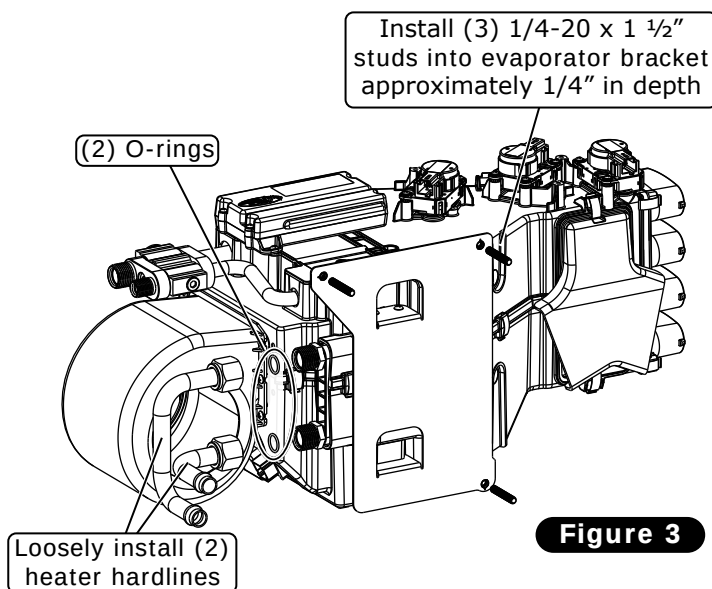

Figure 3
6. Loosely install the (2) heater hardlines with properly lubricated O-rings (See Lubricating O-rings, Page 13 and Figure 3, below). **NOTE: When removing the caps from the sub case, be careful! The sub case is shipped under pressure.**
7. Install (3) 1/4-20 x 1 1/2" studs into the evaporator bracket approximately 1/4" in depth (See Figure 3, below).